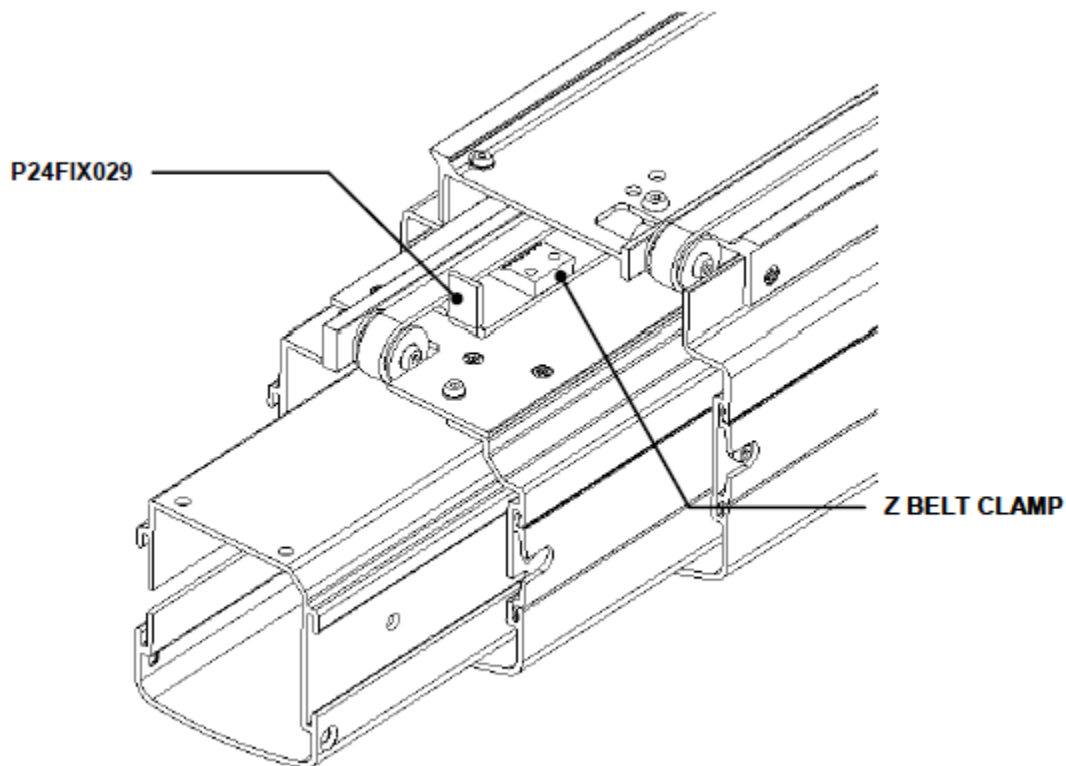

Figure Z-30: Belt on Center Extrusion
11. Pull the Centre Z Extrusion out to the approximate position shown (Figure Z-30) and place the Belt Clamp Locator (P24FIX029) on to the TA Centre Z Backplate.